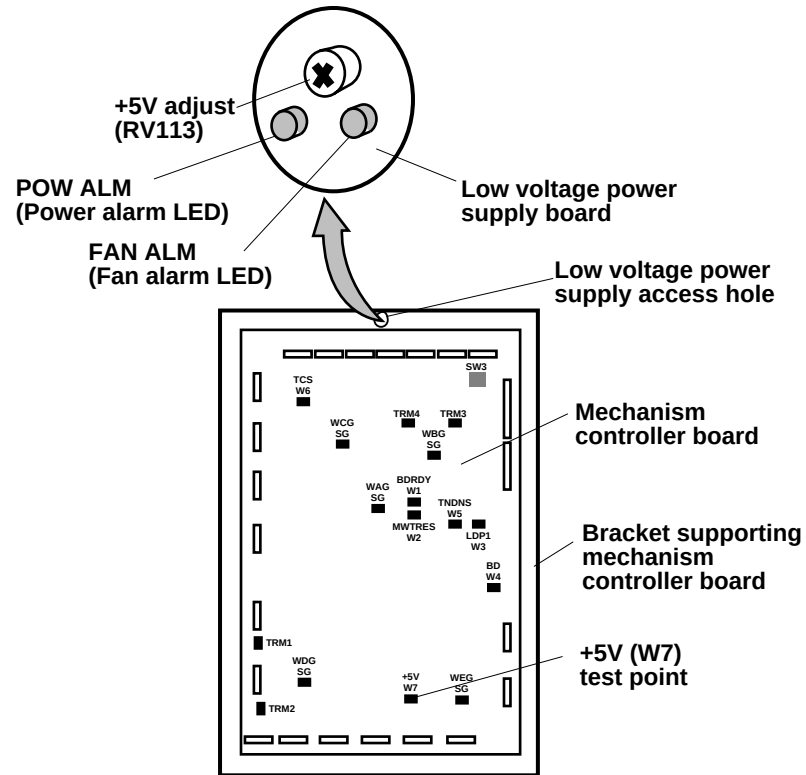

Figure 5-4 LVPS +5V Test Point W7 and +5V Adjustment
- Figure 5-4 illustrates the +5 Vdc (W7) test point location.
- Figure 5-4 illustrates the access of the +5 Vdc adjustment through the top hole of the mechanism controller support bracket.